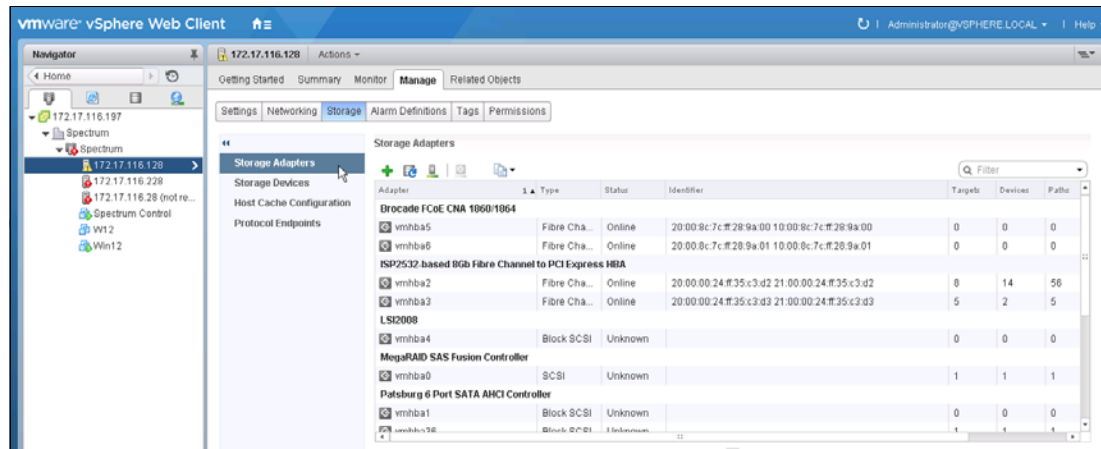

Figure 5-26 VMware: Select new iSCSI software adapter
- Check whether an iSCSI software adapter is available. Select **Storage Adapters** on the Manage tab. See Figure 5-26.